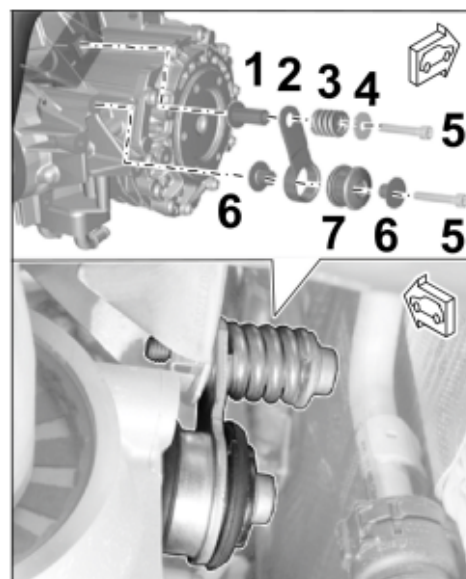

Figure 35
- 4.1.1 Install new exhaust pipe with a new seal and new spring/tab assembly (⇒ *Figure 35*). ⇒ *Workshop Manual '261719 Removing and installing exhaust pipe - T9I'*